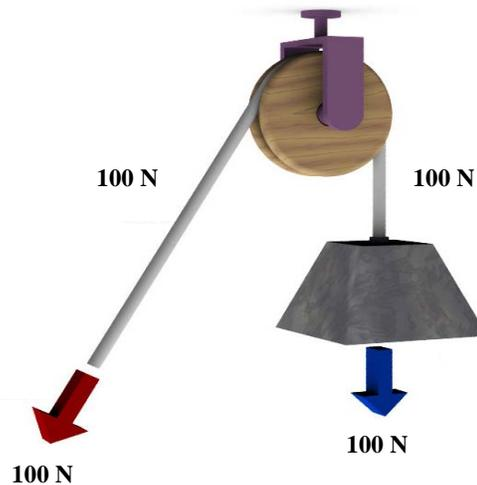

Figure 4.6: Fixed pulley.
The pulley shown in figure 4.6 is a fixed pulley.
- Figure 4.6 shows that you need 100N effort to raise a 100 N load.